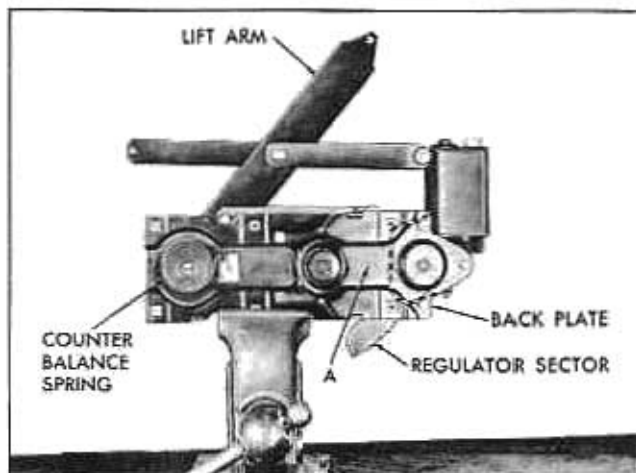

Fig. 2-38 Rear Door Window Regulator
1. Remove electric window regulator assembly from door and clamp securely in vise (Fig. 2-38).
2. Drill a 1/4" hole through sector and back plate within area indicated by A (Fig. 2-38).
4. Remove motor attaching bolts and remove motor assembly from regulator (Fig. 2-38).